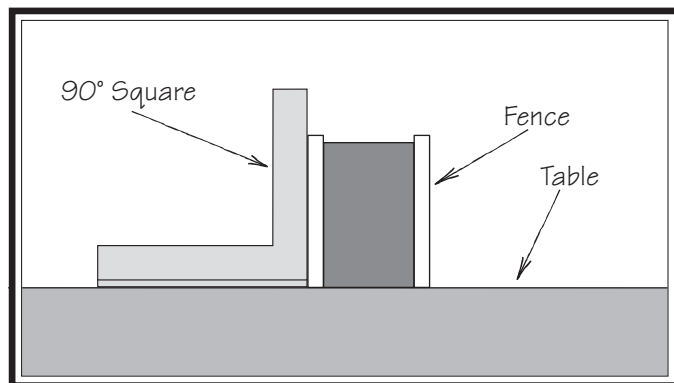

Figure 131. Checking if fence is square to table.
2. Place a square on table against face of fence (**Figure 131**) to check if fence is square to table.